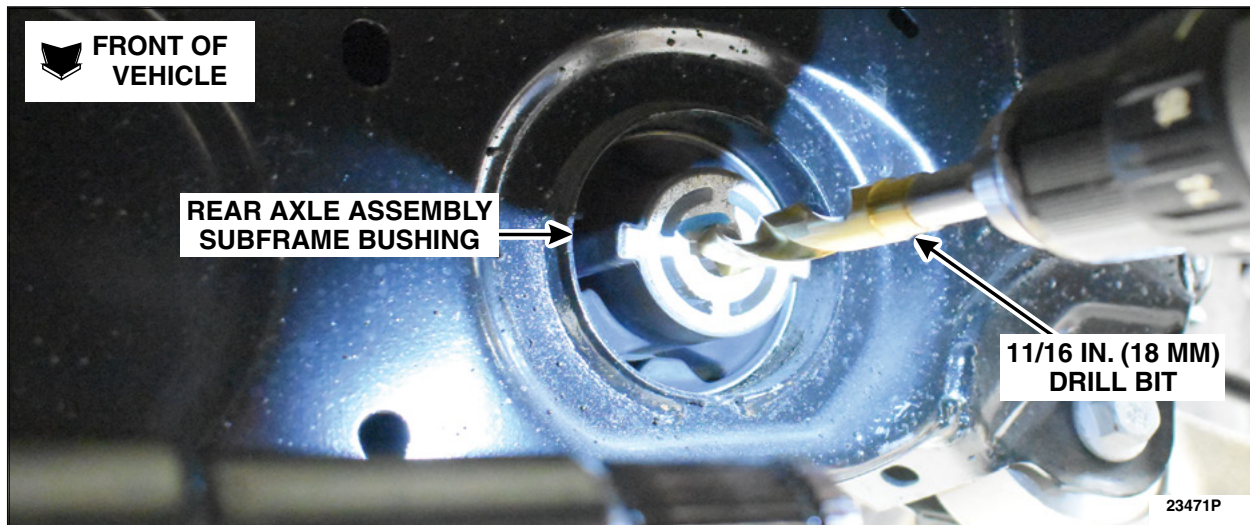

FIGURE 16
23. Using an *11/16 in. (18 mm) or larger* drill bit, drill out the rear axle assembly subframe bushing bolt hole. See Figure 16. *Click on the video link to see the drilling process:*